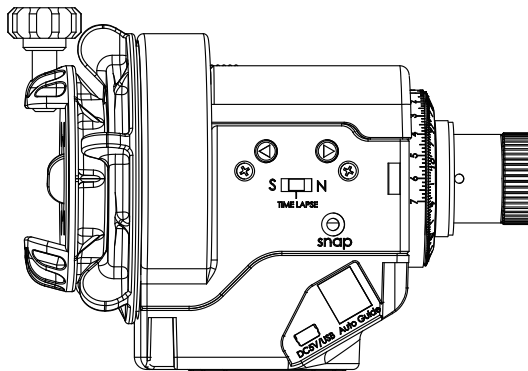

Fig 32
3. Slide the **3-Position Slide Switch** to **N** if you are in Northern Hemisphere (Fig 32).